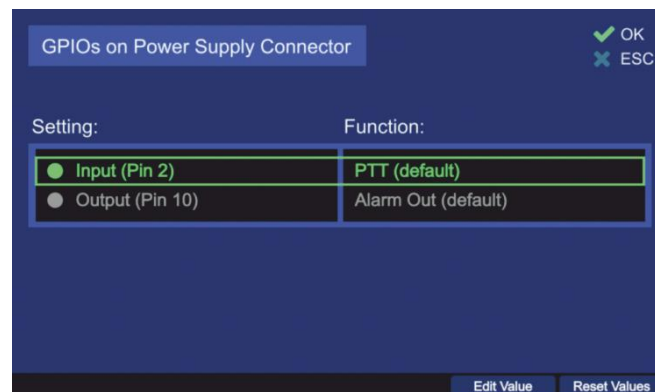

Fig. 159 Dialog for setting the GPIOs
- In order to define, which signals are to be allocated to the IOs, select the setting “GPIOs (Power S. Connector)” (s. Fig. 139) and press “OK” or the hotkey “Edit Value”. The following dialog appears (s. Fig. 159).
- To configure the programmable output pin, press the hotkey “Edit Value”, while the setting “Input (Pin 2)” is marked (s. Fig. 159).